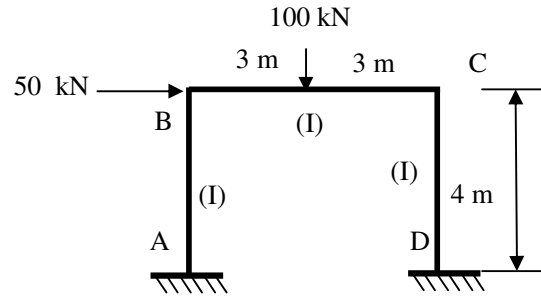

Fig.2 Q.3
- Q.3** Analyse a plane frame shown in fig.2 using stiffness member approach and construct BM diagram. **14**